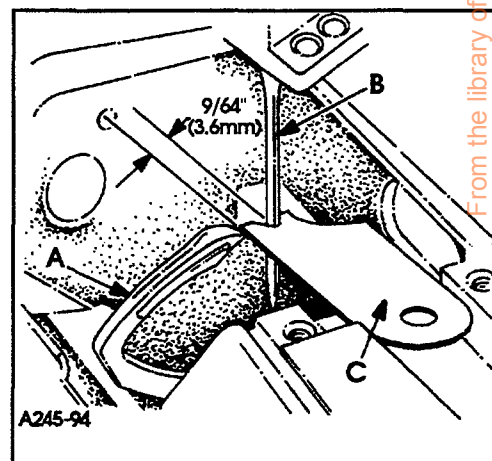
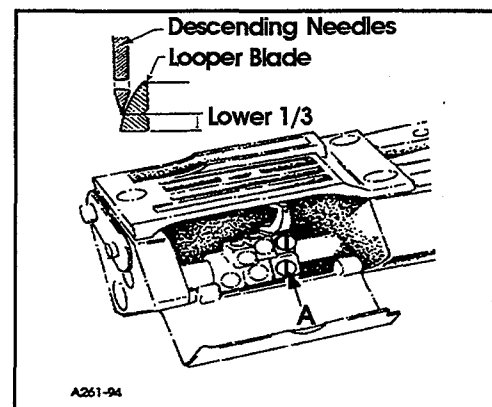

FIG. 6
FIG. 7
Insert a new set of needles, type and size specified. Always adjust the looper (A, Fig. 6) for the left needle first. Set the looper so that the distance from the center of the needle (B) to the point of the looper (A) is $9/64"$ (3.6mm) when the looper is at its farthest position to the left. Looper gauge (C) No. 21225-9/64 can be used advantageously in making this adjustment. If adjustment is required, loosen screw (A, Fig. 7) in looper holder, permitting movement in either direction to attain the $9/64"$ (3.6mm) dimension as shown in Fig. 6. Retighten screw (A, Fig. 7). Repeat for other needles and loopers.
Rotate handwheel in operating direction to assure that the looper point passes to the rear of the needle as close as possible without contacting. This adjustment can be made by loosening screw (A, Fig. 7) in looper holder. Looper holder can be moved front to back to attain looper to needle setting. Always check the $9/64"$ (3.6mm) looper gauge setting after setting the looper to the back of the needle, and conversely, always check the setting of the looper to the back of the needle after setting the $9/64"$ (3.6mm) looper gauge.
The looper avoid motion is adjustable and should be set so that the descending needle points contact the lower 1/3 of the back of the looper blade. (See Fig. 7).